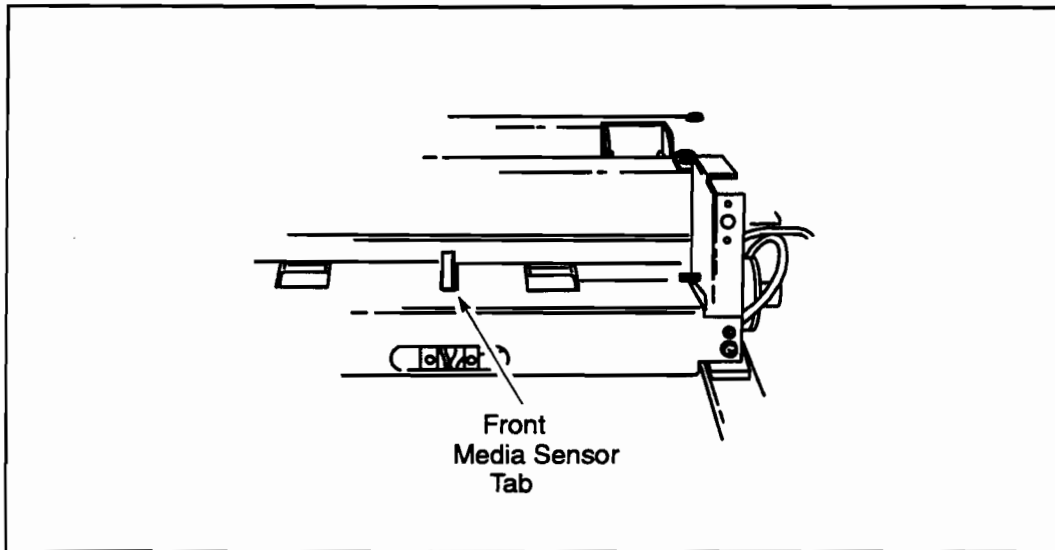

Figure 6-85. Media Input Sensor
11. Remove the sensor mounting screw and sensor. See Figure 6-85.